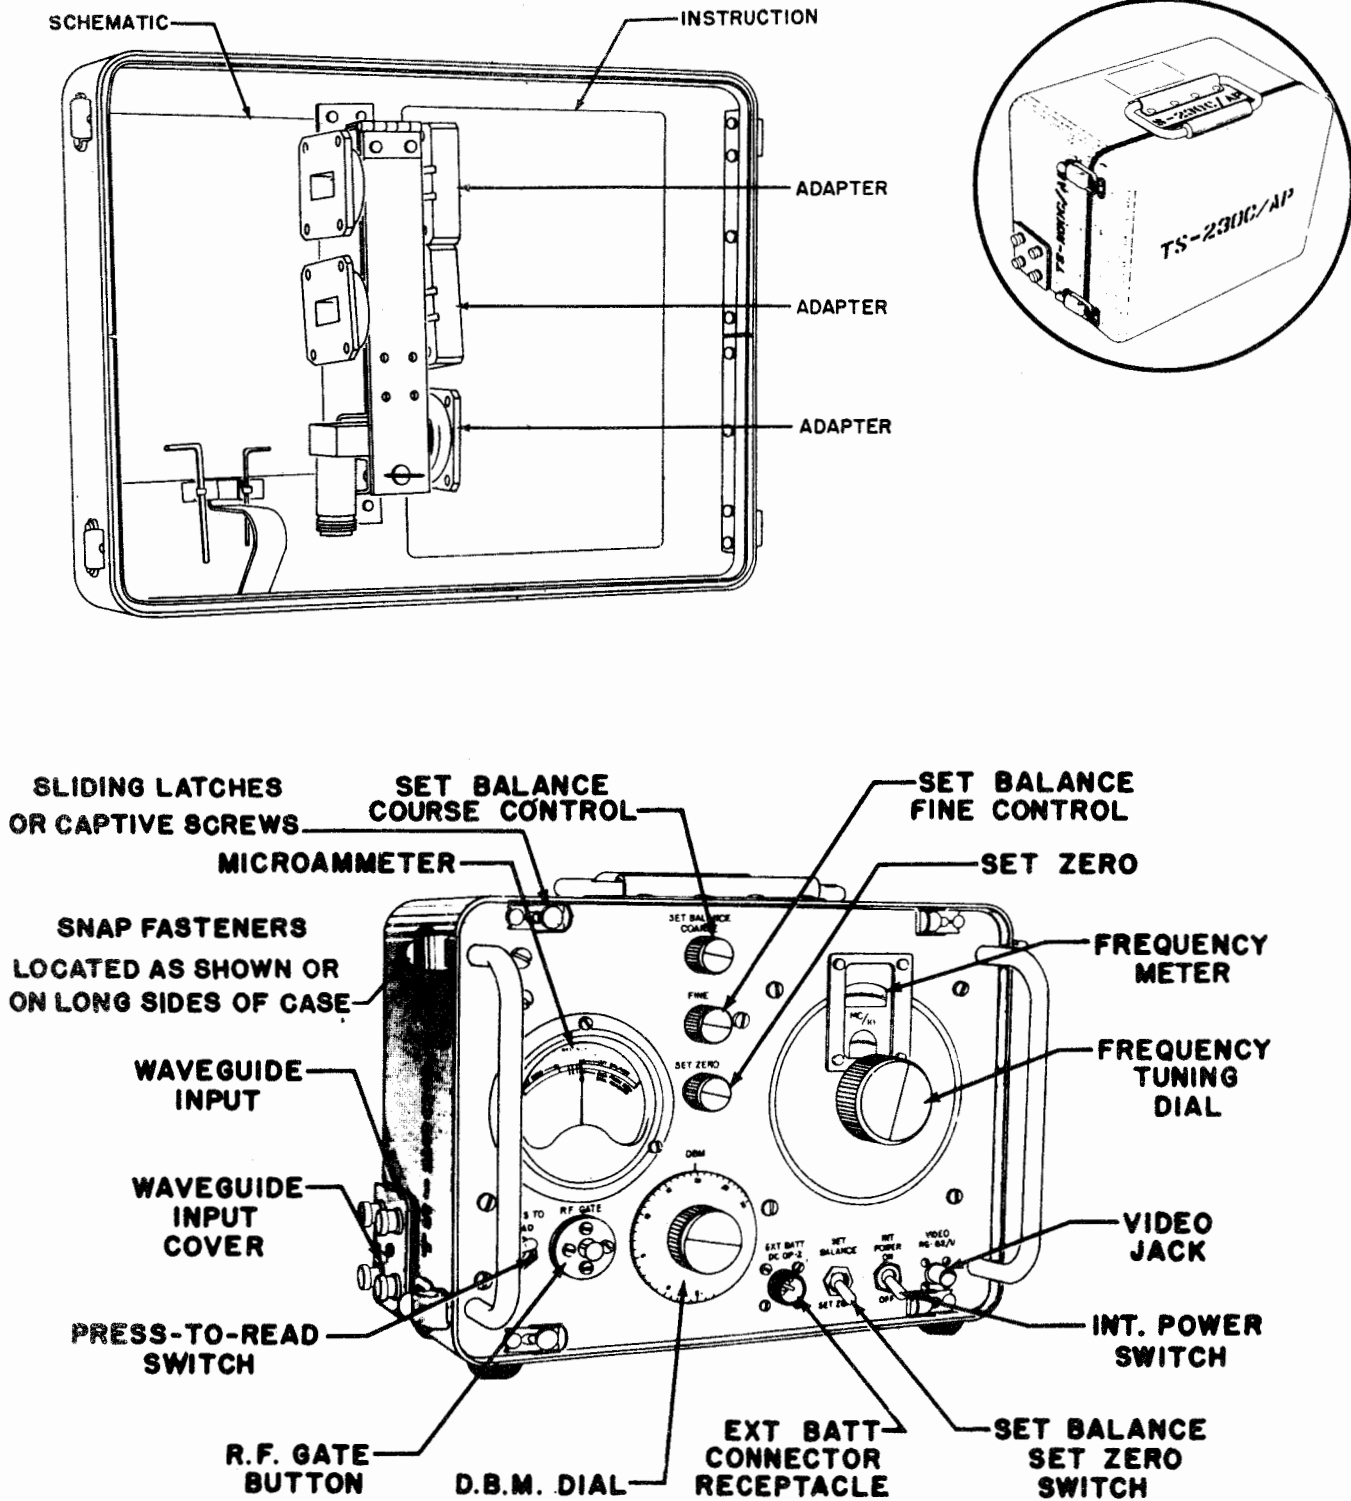

Figure 1-1. Frequency-Power Meter TS-230C/AP
1. PURPOSE AND BASIC PRINCIPLES. (See fig. 1-1.)